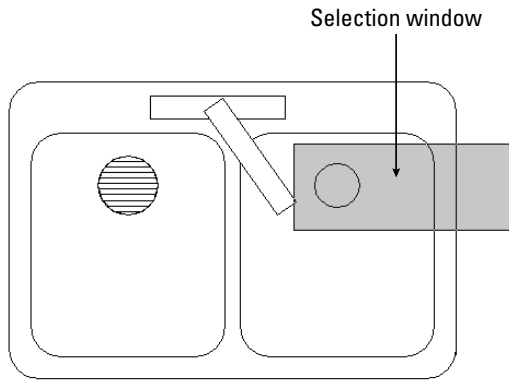
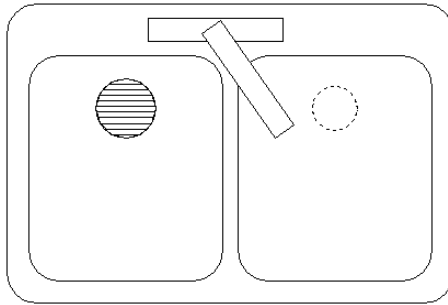

**Figure 9-13:** Selecting objects with a window. The window selects only objects that lie entirely within the window.
**Figure 9-14:** The selected object is highlighted.
- ♦ **Window:** The Window option lets you pick two diagonal corners that define a window. All objects entirely within the window are selected. Figure 9-13 shows the process of picking the window. Figure 9-14 shows the result — to indicate that the selected objects are highlighted, they display dashed instead of continuous lines. As you move your mouse to specify the second diagonal corner, a blue transparent rectangle appears to help you preview which objects will be selected.